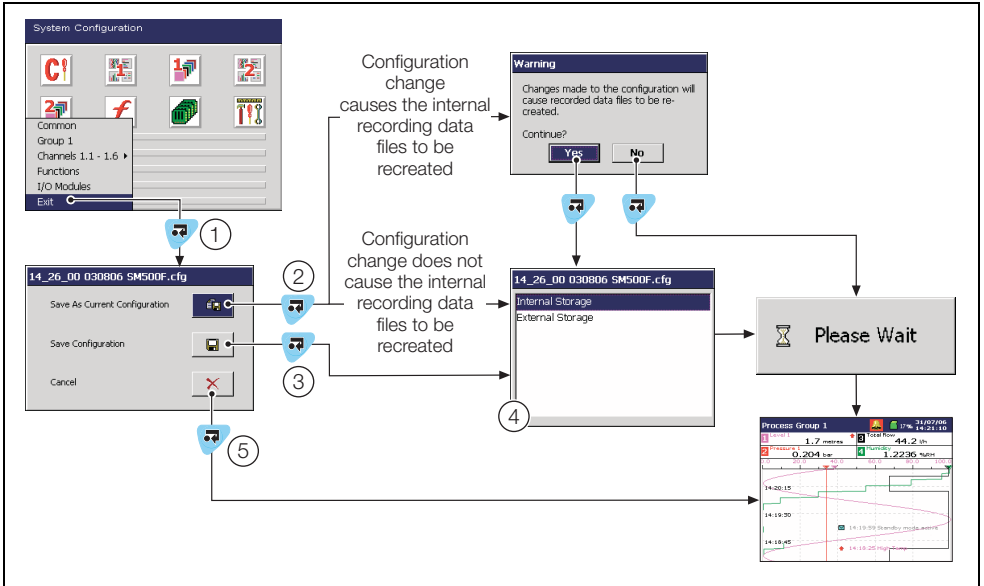

Fig. 7.7 Exiting Configuration Mode
Referring to Fig. 7.7, page 73, exit configuration mode as follows:
- Changes to the date and time are effective immediately upon selecting 'OK' in the dialog box. Select 'Cancel' in the dialog box to exit date and time setup without saving changes. Selecting 'Cancel' upon exiting Configuration Mode (see Fig. 7.7, page 73) **does not** reset the clock to its previous setting.
Note. Changes to daylight saving are effective immediately a method is selected. However, if 'Cancel' is selected upon exiting Configuration Mode (see Fig. 7.7, page 73), the last saved daylight saving settings are restored.